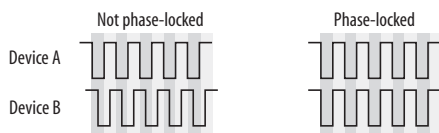

Figure 4-6: When transferring audio, two devices must have phase-locked audio clocks to prevent clicks, pops or other artifacts.
- Synchronizing with other digital audio devices so that their digital audio clocks are *phase-locked* (as shown in Figure 4-6)